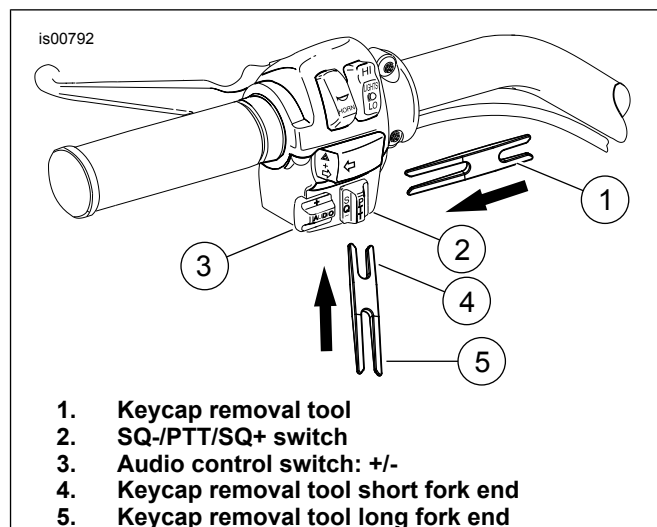

Figure 9. Left Handlebar Lower Switch Housing Keycap Removal Tool
4. See Figure 9. Remove the SQ-/PTT/SQ+ keycap (2) using the short end (4) of the keycap removal tool (1). Push up under the keycap (2). The tool taper will slowly push the keycap off of the switch pin.